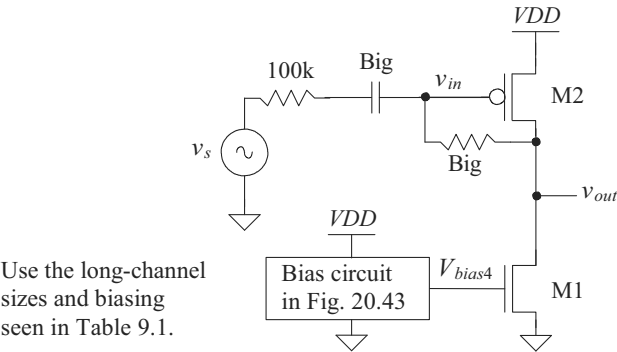

Figure 21.59 Amplifier for Problem 21.7.
- 21.7** Determine the frequency response of the amplifier seen in Fig. 21.59. Verify your hand calculations using simulations.